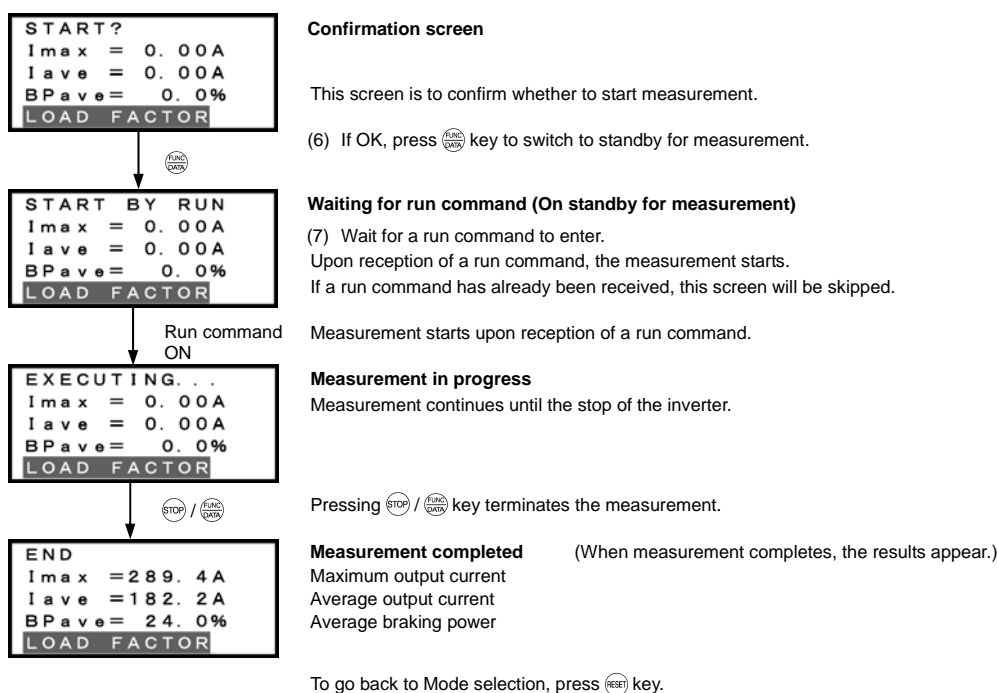

Figure 3.31 Screen Transition for "Load Factor Measurement" (Start-to-stop measurement mode)
- (1) Turn the inverter ON. It automatically enters Running mode. In that mode, press the **PRG** key to switch to Programming mode and display the menu screen.
- (2) Move the pointer  $\rightarrow$  to "9. LOAD FCTR" with the  $\wedge$  and  $\vee$  keys.
- (3) Press the **FUNC DATA** key to establish the selected menu and proceed to the measurement mode selection screen.
- (4) Select START $\rightarrow$ STOP (Start-to-stop measurement mode) with the  $\wedge$  and  $\vee$  keys.
- (5) Press the **FUNC DATA** key to establish the selected measurement mode.
- (6) On the confirmation screen, press the **FUNC DATA** key to switch to standby for measurement.
- (7) Wait for a run command to enter. For details, refer to the screen transition in Figure 3.31. Upon receipt of a run command, measurement starts.
- (8) Press the **RESET** key to go back to the mode selection screen.
- (9) Press the **RESET** key again to go back to the menu screen.
Figure 3.31 shows an example of the LCD screen transition starting from Menu #9 "Load Factor Measurement."